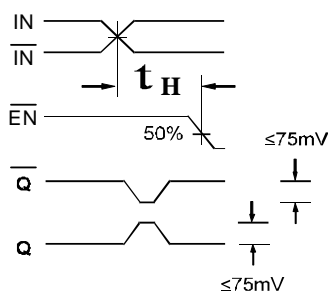

Figure 2. Hold Time
- The hold time is the minimum time that EN must remain asserted after a negative going IN or a positive going \bar{IN} to prevent an output response greater than $\pm 75mV$ to that IN/ \bar{IN} transition (see Figure 2).